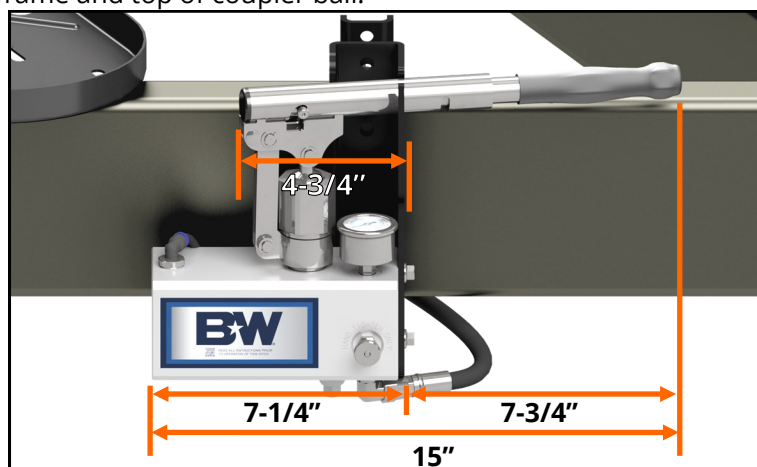
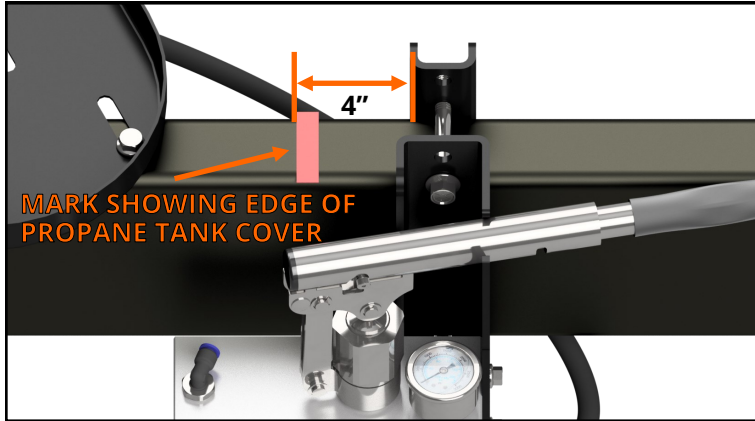

FIGURE A3: View of driver side frame rail.
FIGURE C5: View looking at the driver side frame rail.
- A clear span of frame rail is needed on the driver side of the trailer to mount the hydraulic pump, **see Figure A3.**
3. **Position the pump mount bracket.** Using **Figure A3** on **page 3**, locate a clear span of the driver side frame to secure the hydraulic pump. If the trailer had a propane tank cover, the installation area should be roughly 4" behind the mark made on the frame, **as shown in Figure C5**. Relocate any obstacles or cables that may be in the area needed for pump installation. When the best location for the hydraulic pump unit has been determined, adjust the pump mount bracket so it is level with the frame. Tighten the two 3/8" nuts holding the pump mount inside clamp by alternating between each nut so that when tight, the inside clamp and pump mount bracket are flat against the frame rails, **see Figures C6 and C7**. Torque the 3/8" nuts to 40 ft.-lbs.